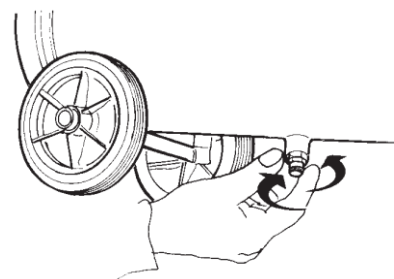

fig. 4
- Check the condensation outflow tap (**fig.4**).
- Remove the condensation outflow tap if pressure is in the tank (**fig. 4**).
Before carrying out any type of maintenance intervention, unplug the compressor and let the tank pressure out by opening the condensation outflow tap (**fig. 4**); unscrew the tap carefully and let the air out slowly as metal residues might be in the tank.
- **Condensation outlet (fig. 4)**
- Empty all the air in the tank (fig. 4).